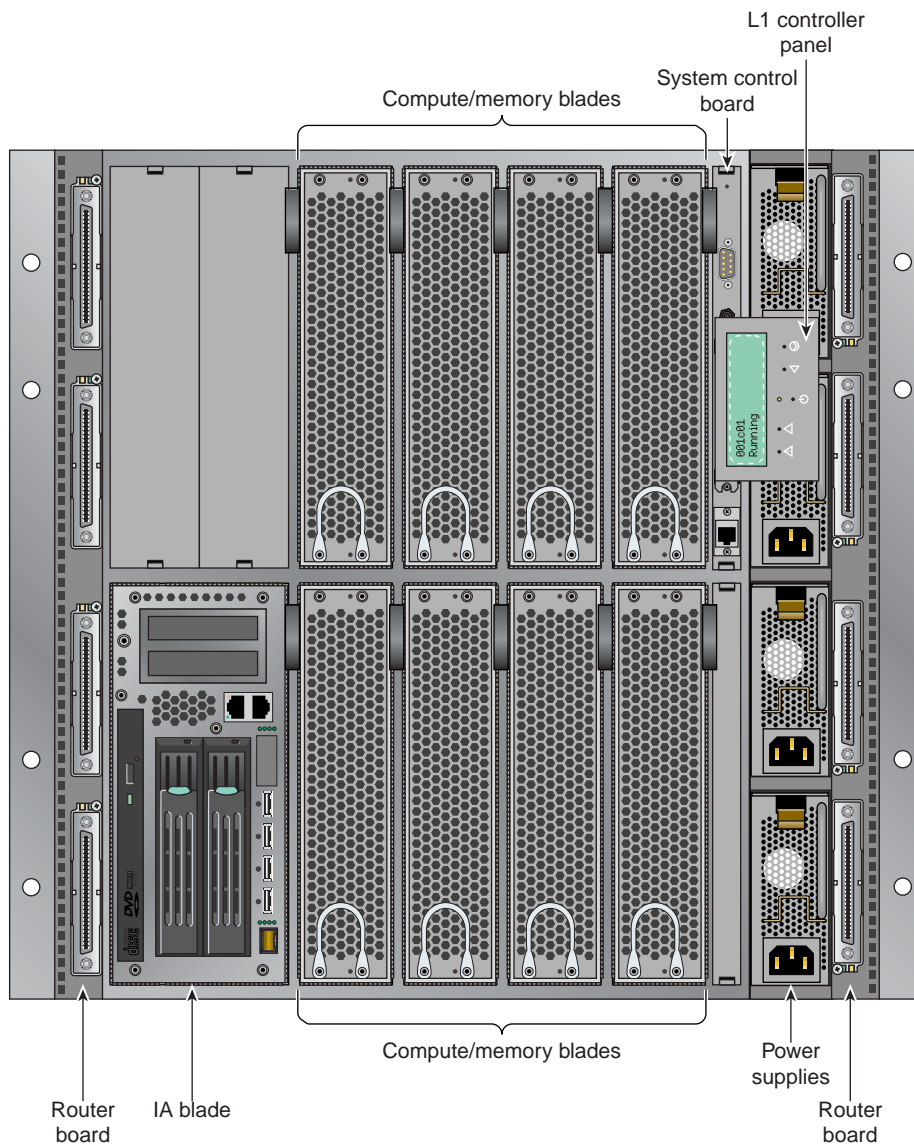

Figure 1-4 IRU L1 Controller Display Location Example
- On the L1 controller's display at the front of each IRU as shown in Figure 1-4 on page 14, you can monitor system operational status. For example, you can monitor error messages that warn of power or temperature values that are out of tolerance.